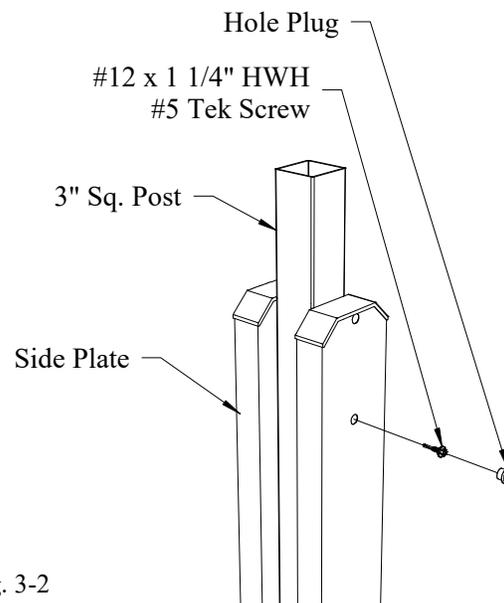

Fig. 3-2
-Also attach the side plate to the header at the top using (4) #12 x 1 1/4" HWH #5 Tek screws (see Fig. 3-2).